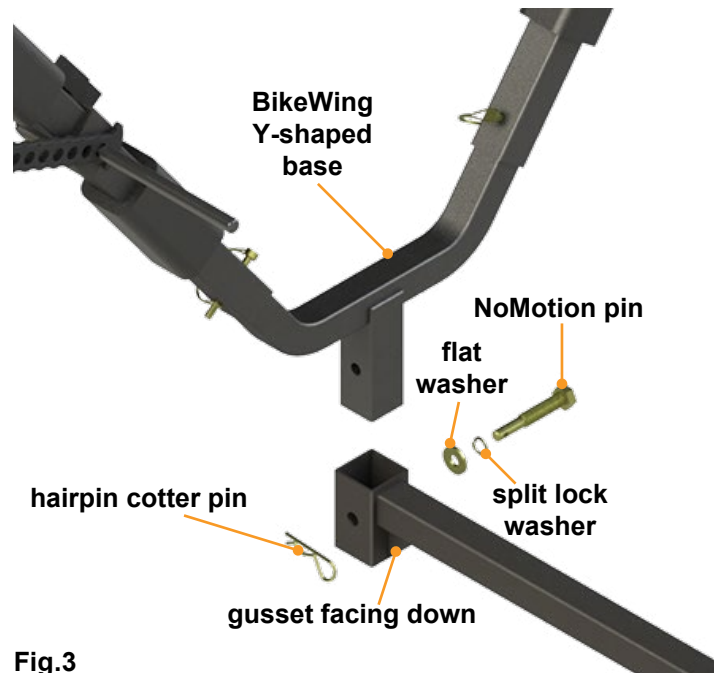

Fig.3
2. Attach the BikeWing Y-shaped base to the end of the Bump-IT shank with a NoMotion hitch pin and washers (Fig.3).